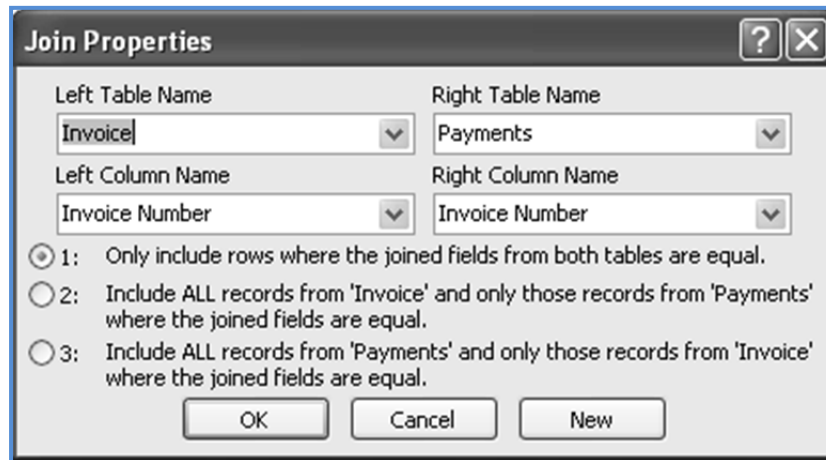

Fig. 1.3.7: Join Properties dialog box
- Right-click the joining line between *Invoice* and *Payments* tables and select **Join Properties** from the menu, or double-click the joining line. The **Join Properties** window appears, as shown in Fig. 1.3.7.